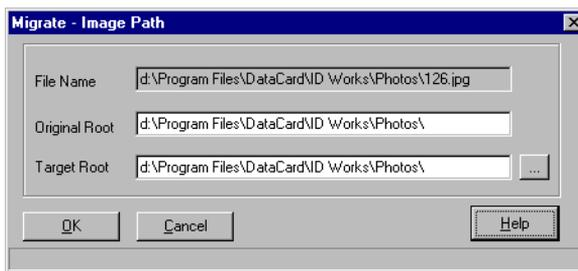

Figure 4-7. Image Path Dialog
7. If you specified an image path field in **Step 5a** and a record containing a path is found, the system displays the dialog shown in **Figure 4-7**.